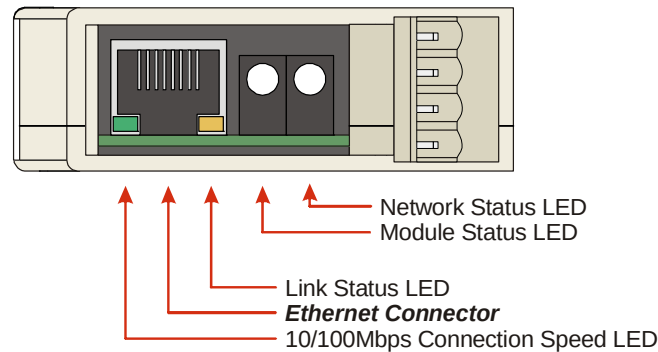

Figure 1.3 Ethernet Port and Motor Connector Locations
Figure 1.3 also shows the location of the Stepper Motor Connector. The mate to this connector is not included with the ANG1(E) and is available from AMCI under the part number MS-4M. It is also available from Phoenix Contact under their part number 187 80 37.